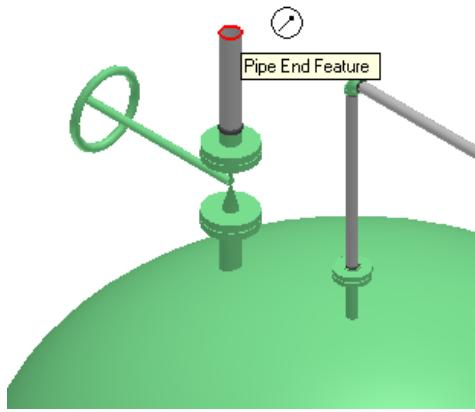

Figure 14: Pipe End Feature
15. After routing the pipe, you cover the top of the pipe with a flange by using the **Insert Component** command. Click the **Insert Component** button on the vertical toolbar and select the end feature of the pipe as shown in Figure 14.